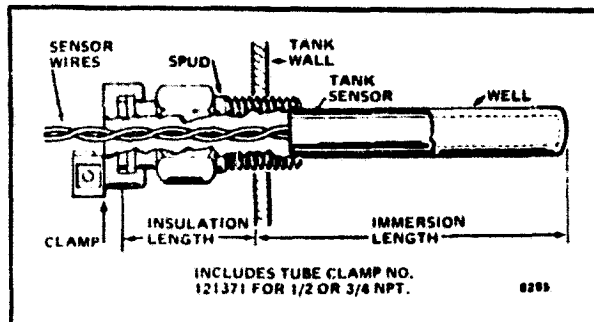

FIG. 1—TANK SENSOR INSERTED IN IMMERSION WELL.
**Immersion Well**—for mounting sensor in storage tank. See Table 1 and Fig. 1.
4. Insert the sensor probe into the immersion well until it bottoms. See Fig. 1.